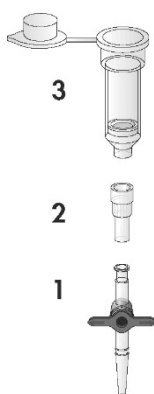

Figure 4. Assembly of components of the QIAamp DSP DNA Blood Mini Kit for vacuum processing of samples.
Ensure that you set up the QIAamp Mini spin column, the VacConnector (VC), and the VacValve correctly (see Figure 4).